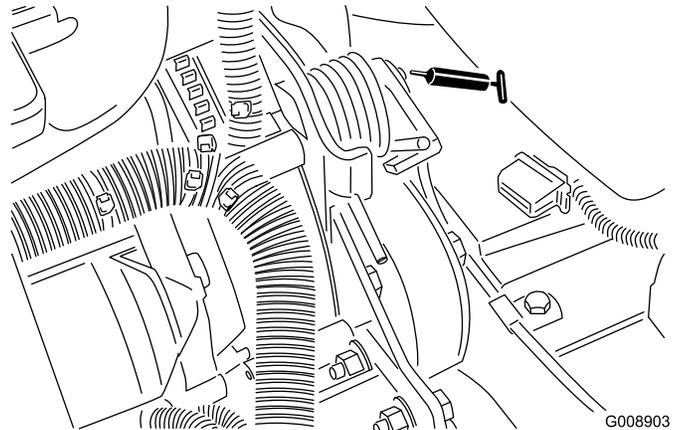

Figure 39
- Belt tension pivot (Figure 39)